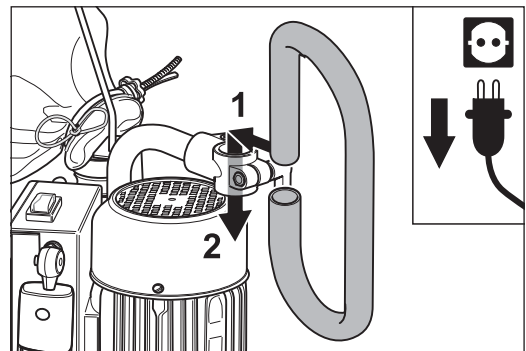

Fig. 19 Installing the handlebar on the pipe bend.
- 2 Install the handlebar directly in the bracket on the front end of the pipe bend (fig. 19). Tighten the clamping lever again.